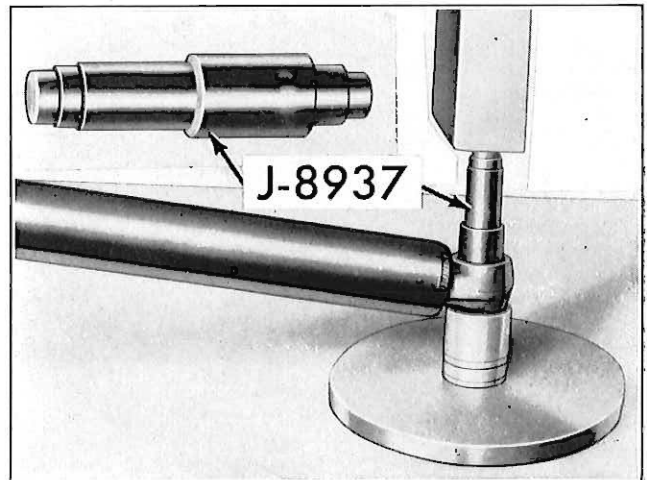

Fig. 5—Steering Cylinder Seat Installer
Tool J8937, shown in Fig. 5, is used to remove and install ball seats in the ends of the power
The first speed gear bushing on the mainshaft is eliminated in the 1961 transmission. This sleeve bushing is shown as item 28, Figure 5, in Section 12 of the 1959-60 Passenger Car Supplement.